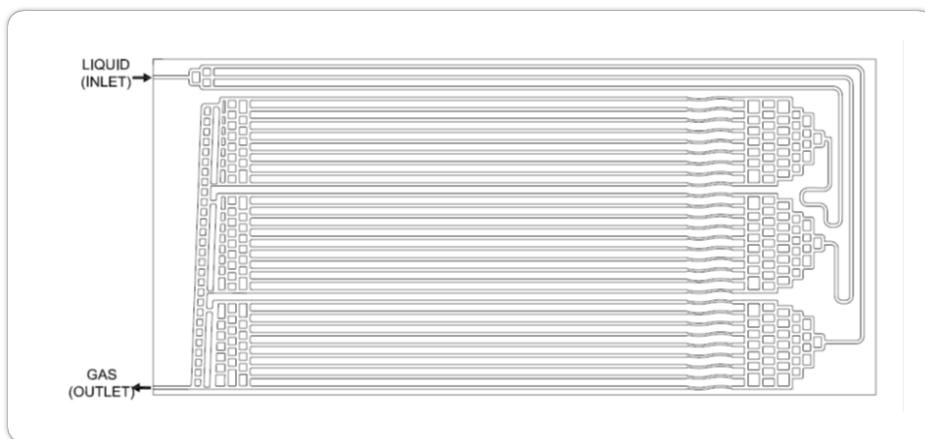

Fig. 3 Thermodynamic panel
- Connection of the panel: Gas outlet (fig. 3) is connected to the gas inlet of the unit (LMTB) and liquid inlet (fig. 3) is connected to the liquid outlet of the unit (LMTB).